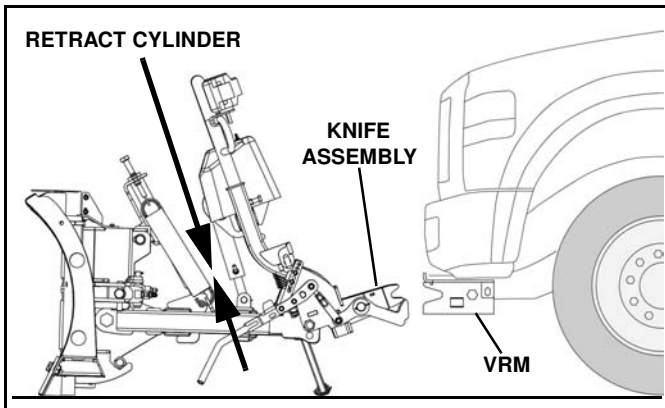

Figure 1-30
3. Retract the lift cylinder (raise the plow) until the A-Frame contacts the stacking stop. (See Figure 1-30).